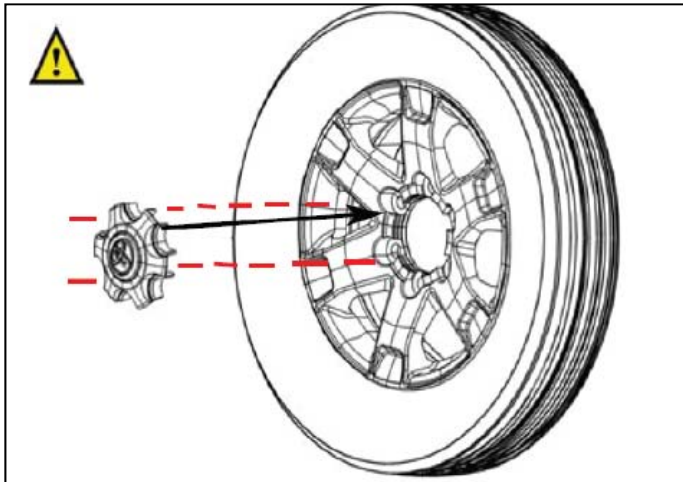

Figure 10
10. Install Center Cap. Align center cap with screw towers and use hex key to tighten the two hex screws. See Figure 10.